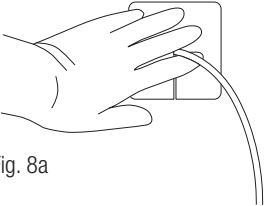

Fig. 8a
- Place split gauze around catheter exit site and place up against skin. (Figure 8a)